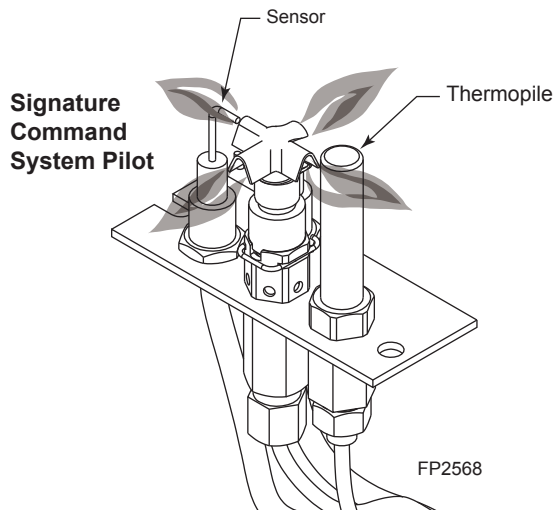

Figure 50 -
1. Check pilot flame. Flame should touch approximately 3/8" of the top of thermopile and touch top of thermocouple. *Figure 50* If not, contact dealer for service.